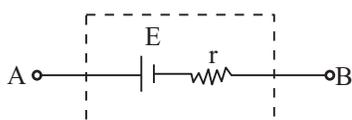

Fig. 23.1
- (ii) Schematically, internal resistance  $r$  of a cell of *emf*  $\epsilon$  whose terminals A and B only are available to us for making connections (Fig 23.1).